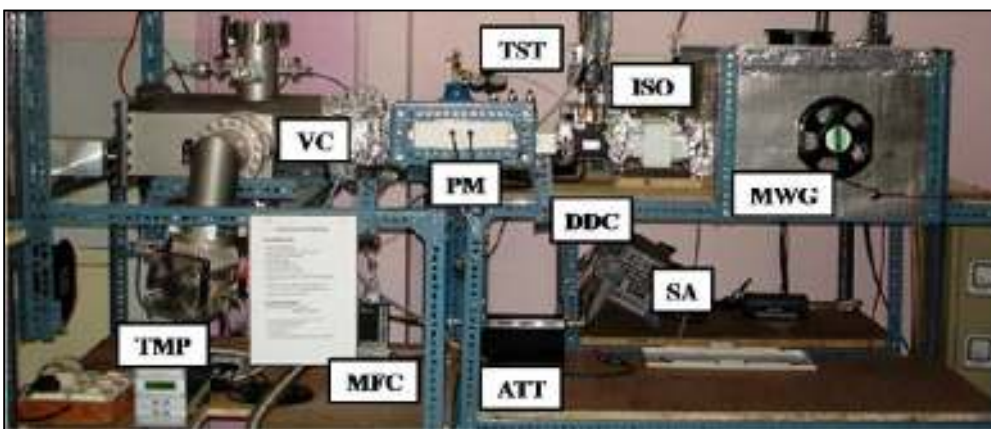

Figure 1: Experimental setup in the Waves and Beams Laboratory, Dept. of Physics, IIT Kanpur.
A digital snapshot of the experimental setup is shown in Fig. 1. The experimental system consists of a stainless-steel Vacuum Chamber (VC) with four cylindrical arms having numerous ports for pumping, gas inlet, vacuum gauges and plasma diagnostics. The chamber is evacuated to a base pressure of 5×10^{-7} Torr by a combination of a Rotary and a Turbo Molecular pump (TMP). Argon (Zero grade) is used as the experimental gas, with its flow controlled by a mass flow controller (MFC). The working pressure range is between 0.20 – 0.60 mTorr which corresponds to about 10^{12} Ar atoms per cubic centimeter at 25 °C.